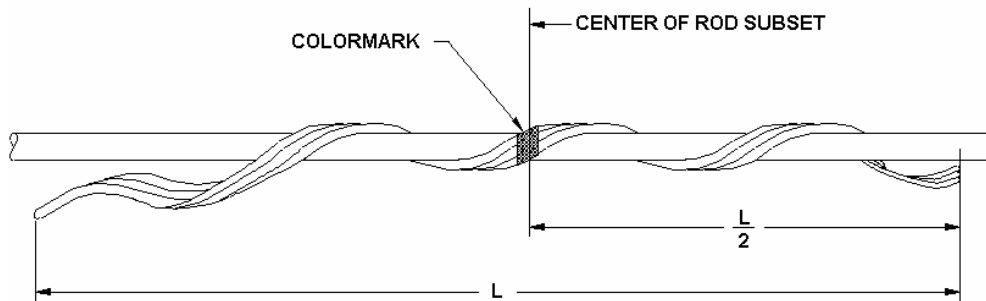

Figure 1.
2. Apply the DYNA-HANGER™ Rods to the cable one subset at a time. Align the colormark of the first rod subset (located at the center of the rods) with the center of the designated cable section. Begin at the colormark and lay the rod subset against the cable. While holding the rod subset firmly in position, wrap the subset around the cable on one side of the colormark. Apply about three wraps of the subset onto the cable so that the rods will stay on. Avoid winding the cable into the rods as this will make it difficult to fit the remaining rod subsets onto the cable. Be careful during handling not to permanently bend the rods. Now, wrap the rod subset about the cable on the other side of the color mark. See Figure 1.